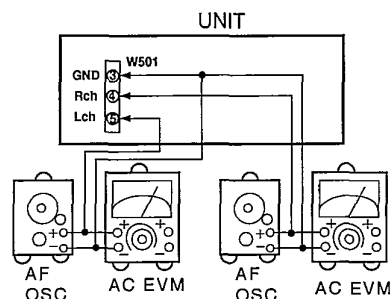

Fig. 1
2. Short the test point **TP701** in Fig. 1.
1. Connect an AF oscillator and AC EVM to the amplifier, as shown in Fig. 1.
3. Turn on power to the unit and apply a **1kHz 50mV** signal from pin ③ (GND) to pin ④ (R ch) and pin ⑤ (L ch) of W501.